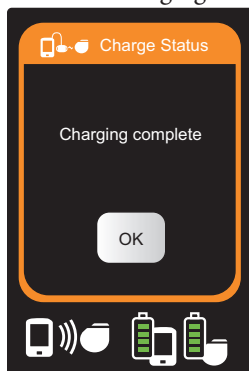

Figure 6. IPG charging complete
8. When the Charge Status screen shows that charging is complete, select OK (*Figure 6*).